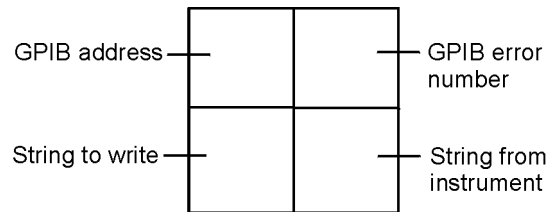

Figure 12: Implementing the General GPIB Driver
1. Insert mtagpib.vi and wire it as shown in Figure 12. The inputs are displayed on the left side; the outputs are displayed on the right side.